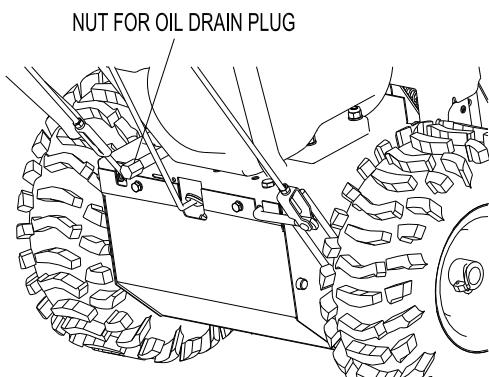

FIG 24
**6.7.2** Remove the nut of the oil drain plug. (FIG 24)